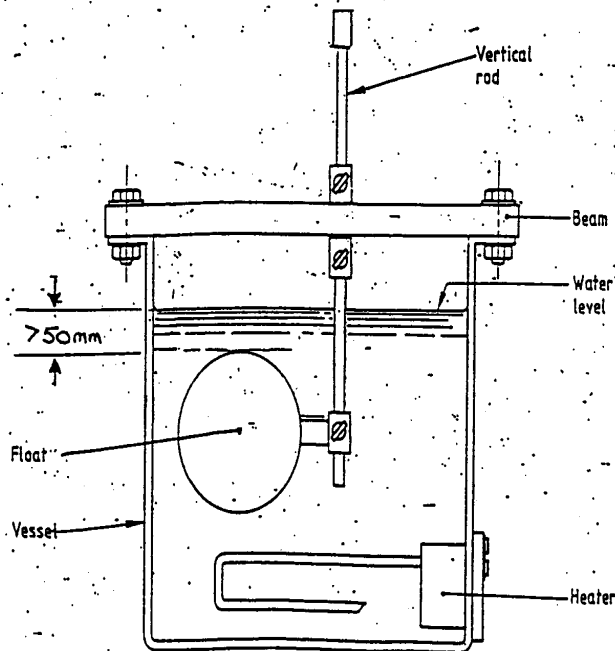

Figure 1.
- (1) Set up the float to be tested in accordance with setting-up procedure IGN 1-50-73 as shown in Figure 1.
- (2) Screw the float boss onto the male threaded attachment at the bottom of the vertical rod.
- (3) Adjust the height of the vertical rod until the float is submerged to a depth of at least 50mm.
- (4) Secure the two clamping screws on the vertical rod either side of the cross-beam to hold the float in position.
- (5) Heat the water in the vessel to a temperature of $93 \pm 5^\circ\text{C}$, for grade H (red) or $38 \pm 5^\circ\text{C}$, for grade C (blue) floats.
- (6) For grade H (red) floats - maintain the test conditions for a period of 30 days \pm 4 hours.